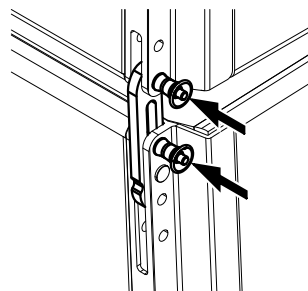

Fig. 14: SUB to SUB, 2.5° splay, free
- c. SUB to SUB with 2.5° splay (free ⇒ Fig. 14) between the cabinets.